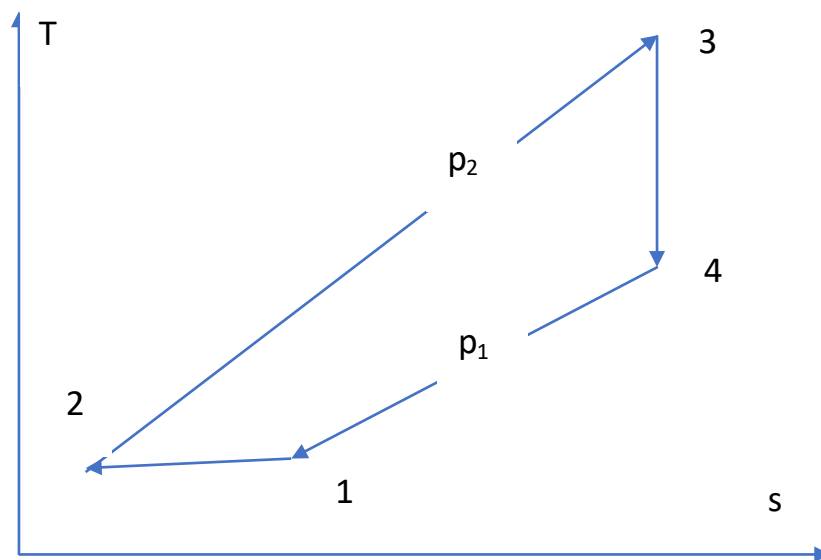

Figure 1 - Proposed Power Cycle
- As shown in **Figure 1**, it has been proposed to construct a power cycle using (i) isothermal compression between pressures p_1 and p_2 at the initial temperature T_1 , (ii) constant pressure heating at p_2 to T_3 , and (iii) expansion back to p_1 . Drive an expression for the efficiency of this cycle and compare it to that of a conventional Bryton cycle between the same two pressures. Calculate both efficiencies for pressure ratio of 30, $T_1 = 300$ K and $T_3 = 1600$ K.